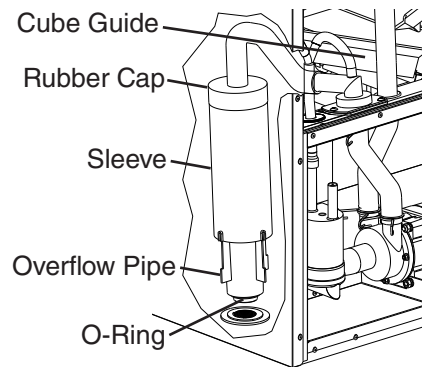

Fig. 17
- 4) Remove the rubber cap and sleeve covering the overflow pipe. See Fig. 17. Unscrew the overflow pipe.